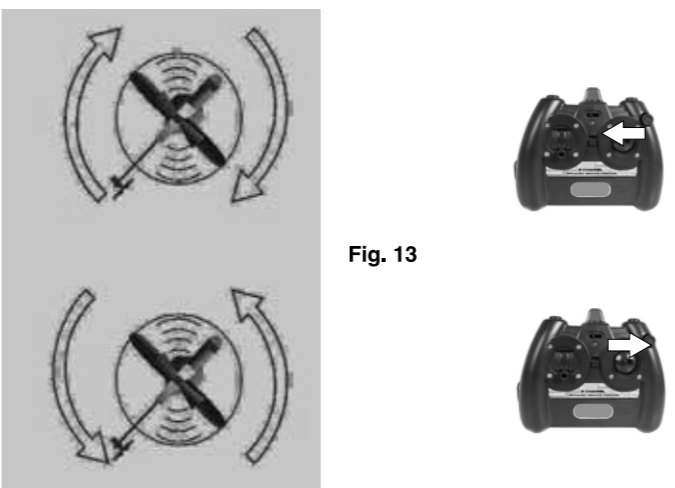

Fig. 13
- If the helicopter spirals left or right (Fig. 13), turn and release the left/right trim in the opposite direction repeatedly until the balance is adjusted.